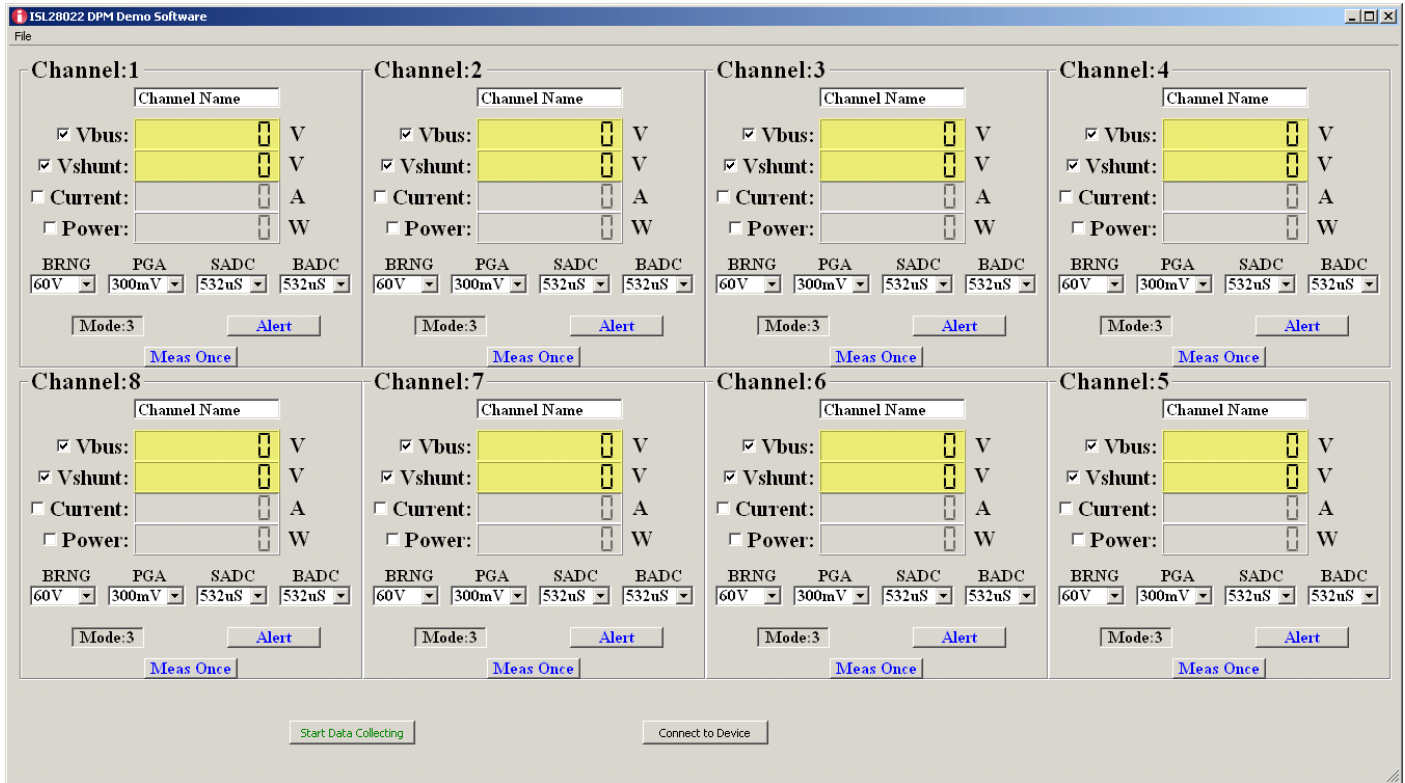

FIGURE 3. ISL28022 DPM DEMO SOFTWARE WINDOW
- To run the program, go to the “Start” menu and choose the isl28022_DpmMultiSiteEvalBrd folder, and then choose the isl28022_DpmMultiSiteEvalBrd icon. Once clicked, the demo software window should appear as illustrated in Figure 3.
The file name entered in the dialog box is the base name for all files saved. A unique named file is generated for each measured parameter (Vbus, Vshunt, Current, Power) across 8 channels. The software only saves data to a file for each measured parameter selected. If a measured parameter is not selected across 8 channels, then a file with the non-selected measured parameter is not generated. For example, power and current files would not be generated for the configuration of the DPM window shown in Figure 3.